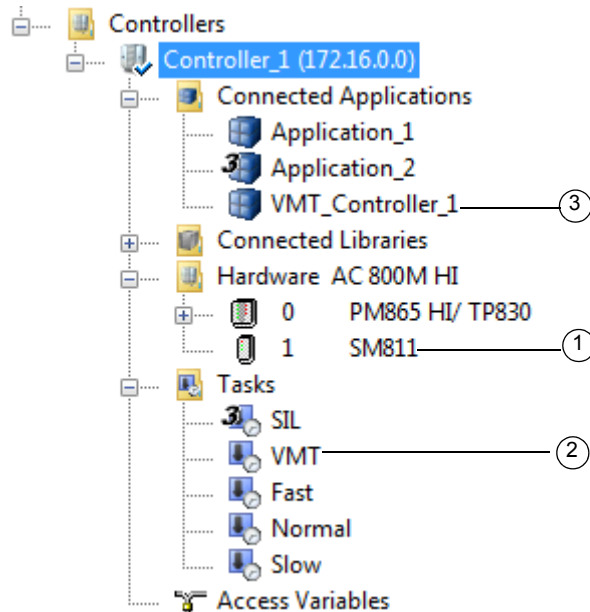

Figure 78. AC 800M High Integrity controller.
An AC 800M High Integrity (HI) controller consists of a PM865 processor unit and a number of HI-specific objects that are added to the hardware tree, see Figure 78.